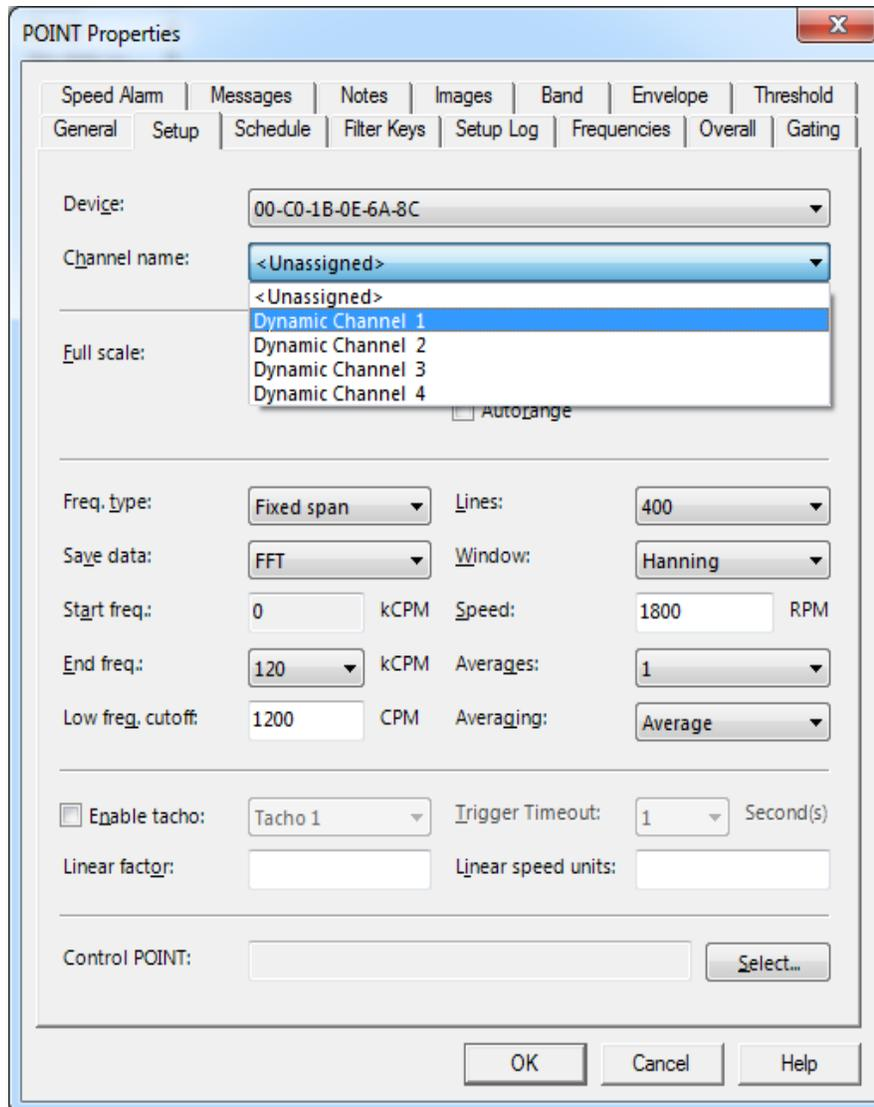

Figure 19. POINT Properties setup
4. Next, go to the **Setup** tab and select the appropriate **Device** and **Channel name**. [Figure 19] Change any other setup details as desired.